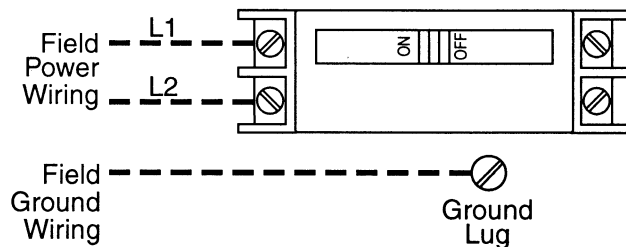

Fig. 4 – 10 kW Circuit Breaker and Disconnect Heaters
- Units with 10kW heaters are wired for single-supply circuit only. See Figure 4.